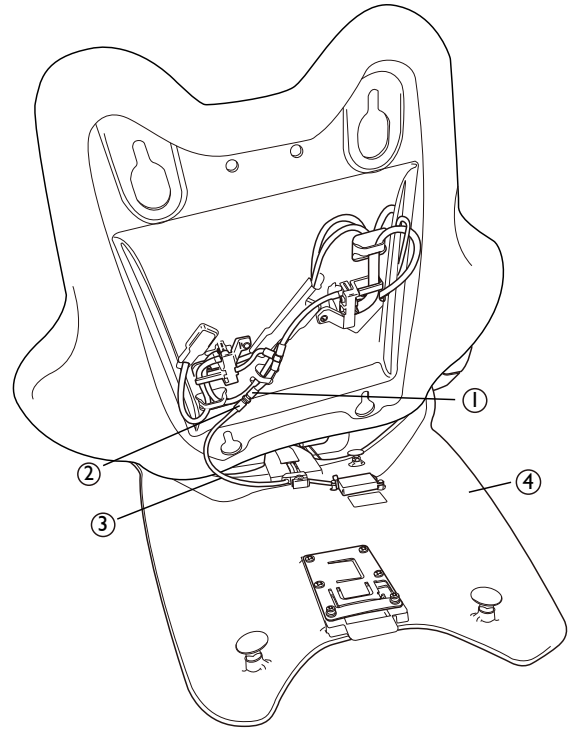

Figure 22. Backrest air connection
1. Connect the Inline QD Swivel connector (Figure 22, item 1) from the upholstered backrest to the mating connector (Figure 22, item 2) on the gray 1/8" ID tubing (Figure 22, item 3) as shown.
2. Install the backrest upholstery to the metal back (Figure 22, item 4), and ensure the tubing creates a service loop on the left side of the backrest (Figure 22, item 3).